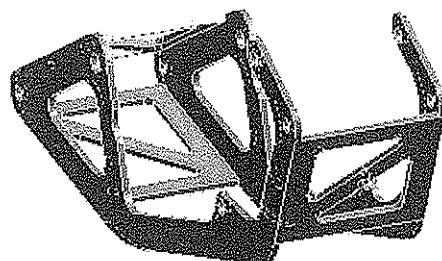

Figure 8-6 Selecting cylindrical faces in the component
- 4. Select all the cylindrical faces, as shown in Figure 8-6. Next, choose the **Apply** button from the **Geometry** selection box in the **Details of “Sizing”** window; **62 Faces** is displayed in the **Geometry** selection box, indicating that 62 faces have been selected for sizing.